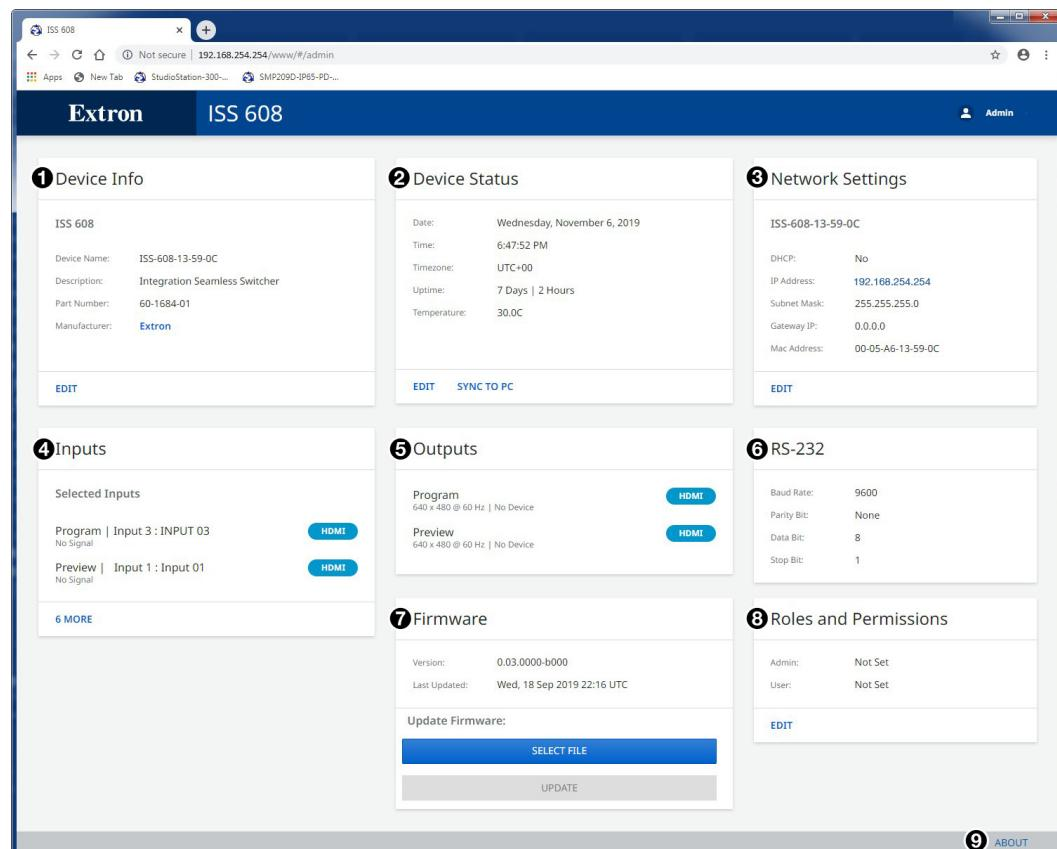

Figure 41. ISS 608 Internal Web Page
The ISS 608 internal web page (see figure 41) provides an overall, read-only view of the status of the seamless switcher, with some editable fields for the following categories:
The **Device Info** panel (see **figure 41**, ①, on page 68) displays the device name, a brief product description, and the part number. The panel also contains an **Extron** link, which opens the **Extron website** in a new window.
In the **Network Settings** panel (see **figure 41**, ③ on page 68), set the IP address, subnet mask, and gateway address for your ISS, and turn DHCP **On** and **Off**.
The **Inputs** panel (see **figure 41**, ④, on page 68) displays the signal type of the active input signal as well as its HDCP status.
The **Outputs** panel (see figure 41, 5, on page 68) displays the resolution and refresh rate of the outputs, their signal type, and the HDCP status of all connected outputs.
The **Firmware** panel (see **figure 41**, **7**, on page 68) displays the current firmware version and the date it was last updated. Update the firmware on the ISS 608 from this panel (see **Software/Firmware Installation** on page 58 to download the firmware files).